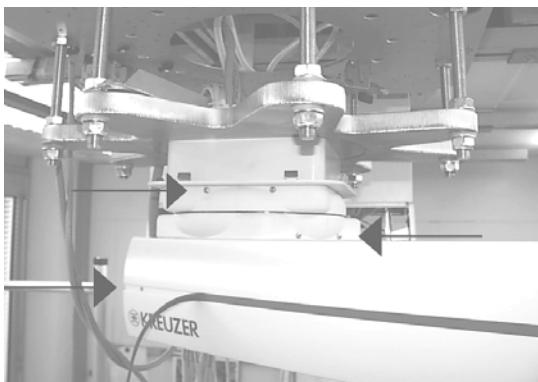

Fig. 2
- To loosen the fastening screws for the end caps on the support arms, the rubber at the ends must be pulled out from the slot, refer to Fig. 2 to Fig. 5. After removing the Phillips screws, press the internally located retainer a little to the inside with a thin screwdriver and simultaneously pull the end cap out a little. After the end cap has been loosened on both sides it can be removed.
- Expand the cover at the rear end in the direction of the arrow (see Fig. 2) and remove it downwards.